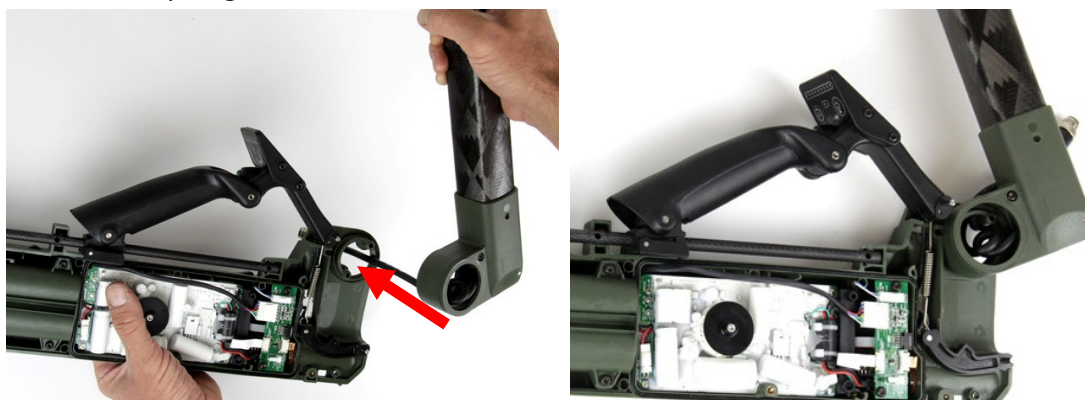

Figure 17: Threading Coil Cable and Attaching Shafts
- Thread the coil cable through the detector hinge and position the upper shaft into the detector body. Figure 17.